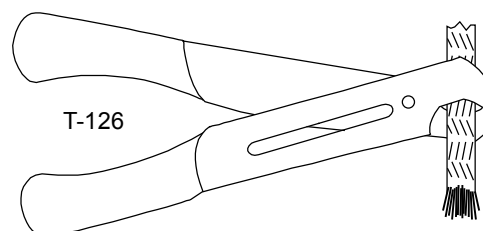

Figure 3.3.2A
3. Cut ignition cable with T-126 shield stripper tool (See Figure 3.3.2A).